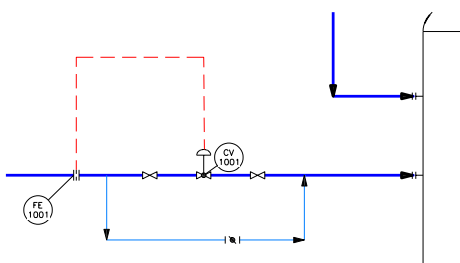

Figure 2-68 Electric signal created on the feed line
9. Similarly, create an electrical signal on the pipe connecting the vessel, as shown in Figure 2-68.